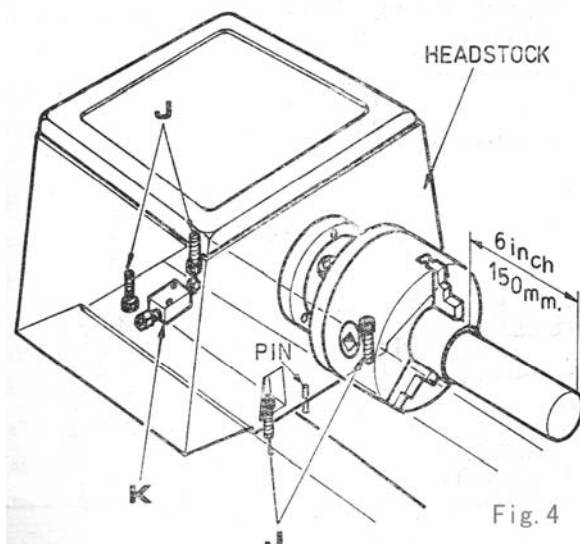

Fig.4
not supported at the free end. Micrometer reading at each end of the turned length (at A and B of Fig.4) should be the same.
To correct a difference in readings, slacken and release the four-headstock hold-down screws (J) shown in Fig.4 and adjust the set-over screw (K) beneath the headstock. Then tighten all screws, after adjustment and repeat the test-cut/micrometer-reading sequence until micrometer readings are identical, so machine now cutting